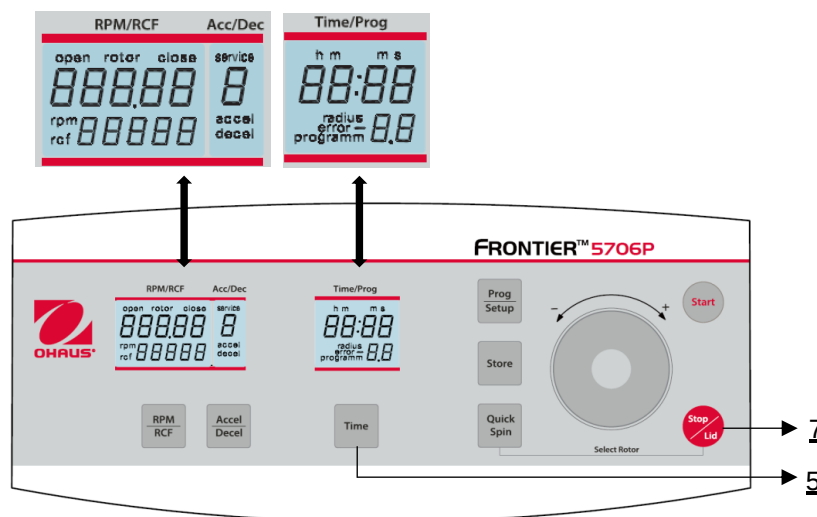

Figure 28
Open the centrifuge lid and shut off the main switch. Now switch on again the main switch. For approximately 3 seconds “5706P” will be shown in the display as well as the current software version. Press during this time the keys **Time** (5) and **Stop/Lid** (7) simultaneously. As a result, a display test is executed for approx. 3 seconds. All indicators will appear at the same time (see **Figure 28**).